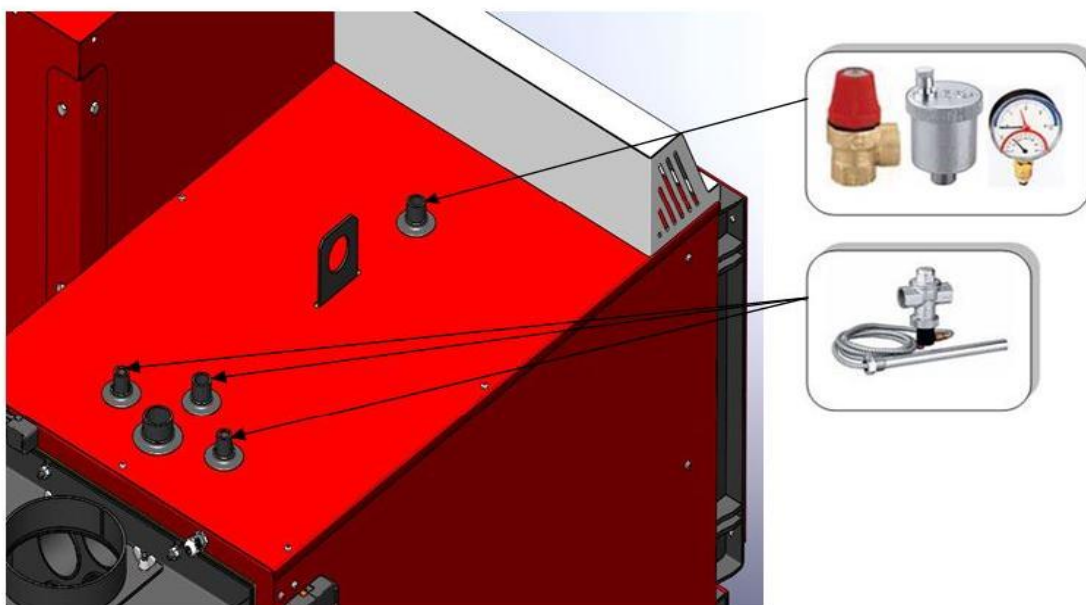

Figure 7. Installation of safety elements
- The installation is shown in the Assembly diagram of boiler onto the installation in **Figure 7**. The boiler is supplied with a copper coil so it is necessary to use the over temperature relief valve from group of thermal safety values with the exchanger, as shown in **Figure 7**. Cold sanitary water is brought to the over temperature relief valve from group of thermal safety values. When the over temperature relief valve from group of thermal safety values -probe has the information that the temperature is over 95 degrees the over temperature relief valve from group of thermal safety values is opened and water flows through copper coil. After some time the temperature of water in boiler returns to its normal state.